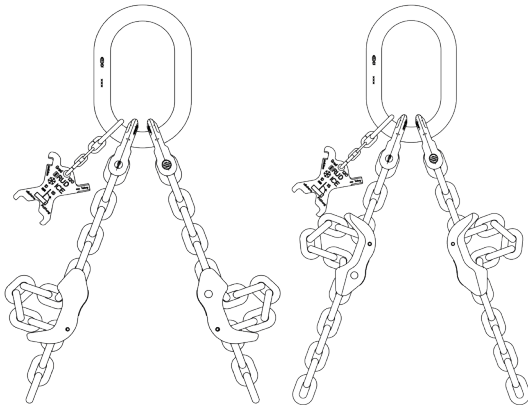

Fig. 6: Multi-strand mounting
- Mount the multi-shortening claws in 2-strand suspensions for easier use in the position “back to back” (see Fig. 6).